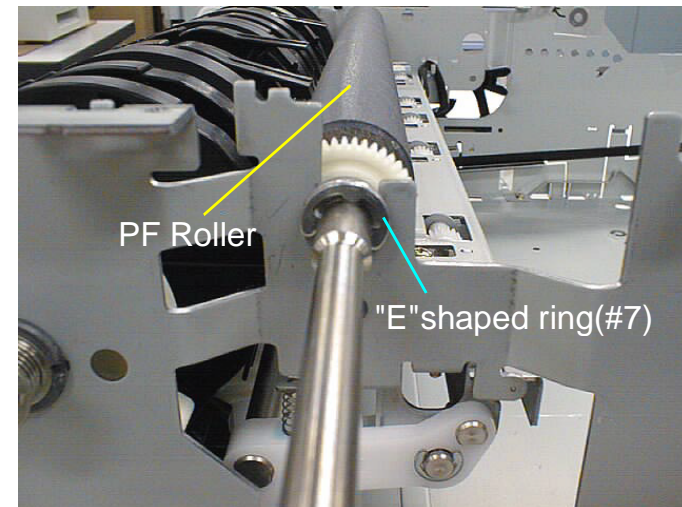

Figure 4-57. PF Roller Removal
9. From left side of the mechanism, remove one "E shaped ring(#7)", and remove PF roller. (Refer to Figure4-57)